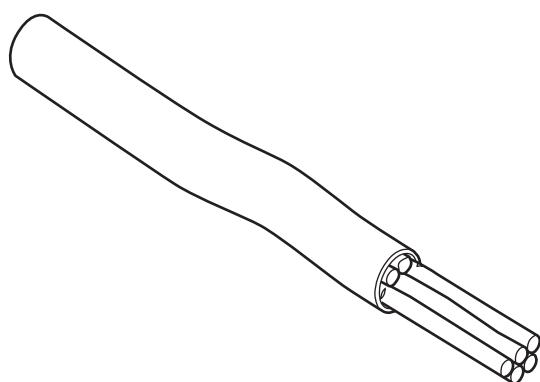

Fig. 5
- (b) Fig. 5 shows a problem that can occur when using wire strippers.